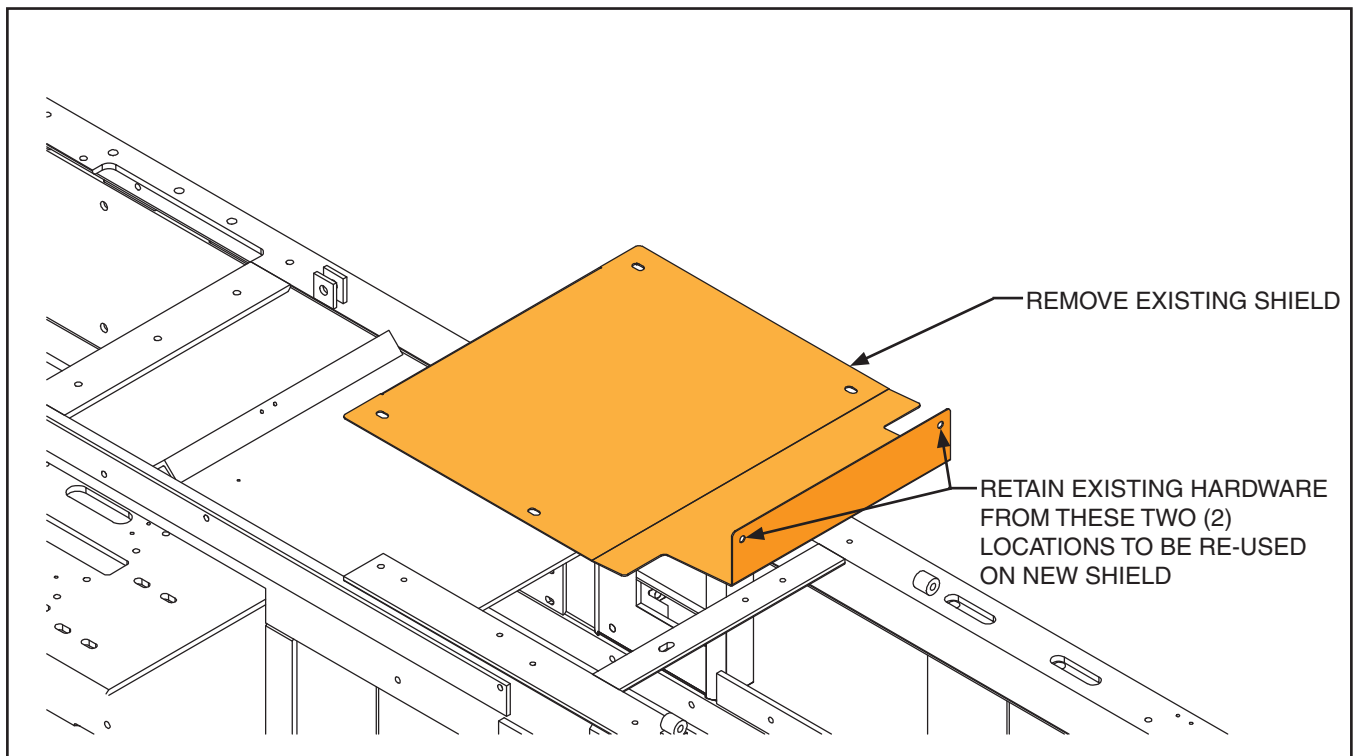

Figure 2
3. Remove the existing Top Chamber Shield from the top of the baler. Retain the hardware as noted (See Figure 2). This shield will no longer be used.